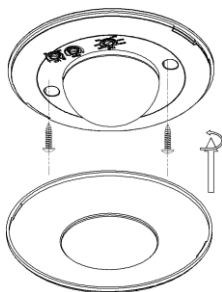

Figure 1
- Please move the upper cover with anti-clockwise whirl (refer to figure 1). And unload the transparent cover(refer to figure 2).